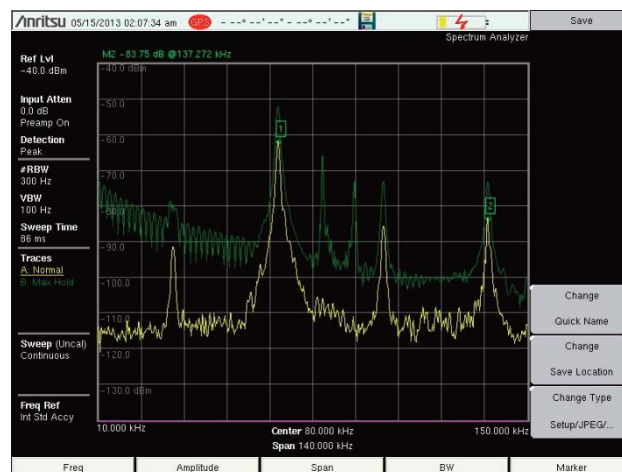

Figure 6: Max hold trace vs. Live trace
- Multiple traces, trace math and trace operations such as max hold will enable the user to easily detect changes in signal conditions between different cables and, for example, when switching off possible sources of interference (see figure 6 below)